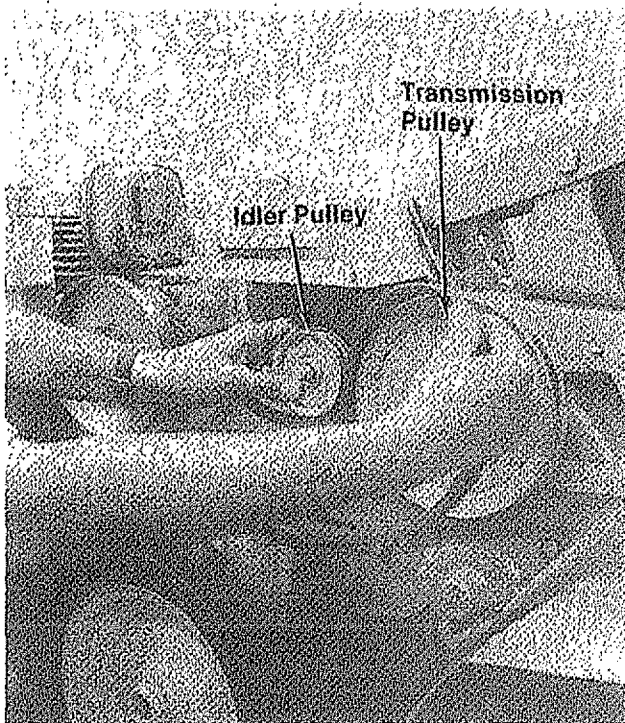

FIGURE 35.
Move gear shift lever to the second (2) speed position. Slip the belt off the transmission pulley. Pull the idler pulley down and remove the belt. See figure 35.